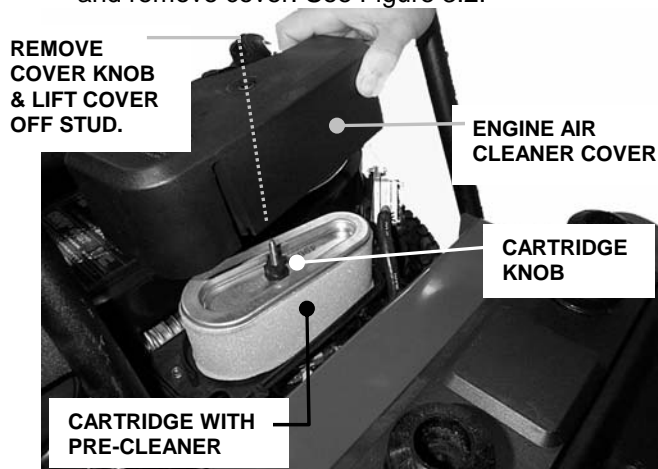

FIGURE 3.2
1. Locate engine air cleaner. Loosen cover knob and remove cover. See Figure 3.2.